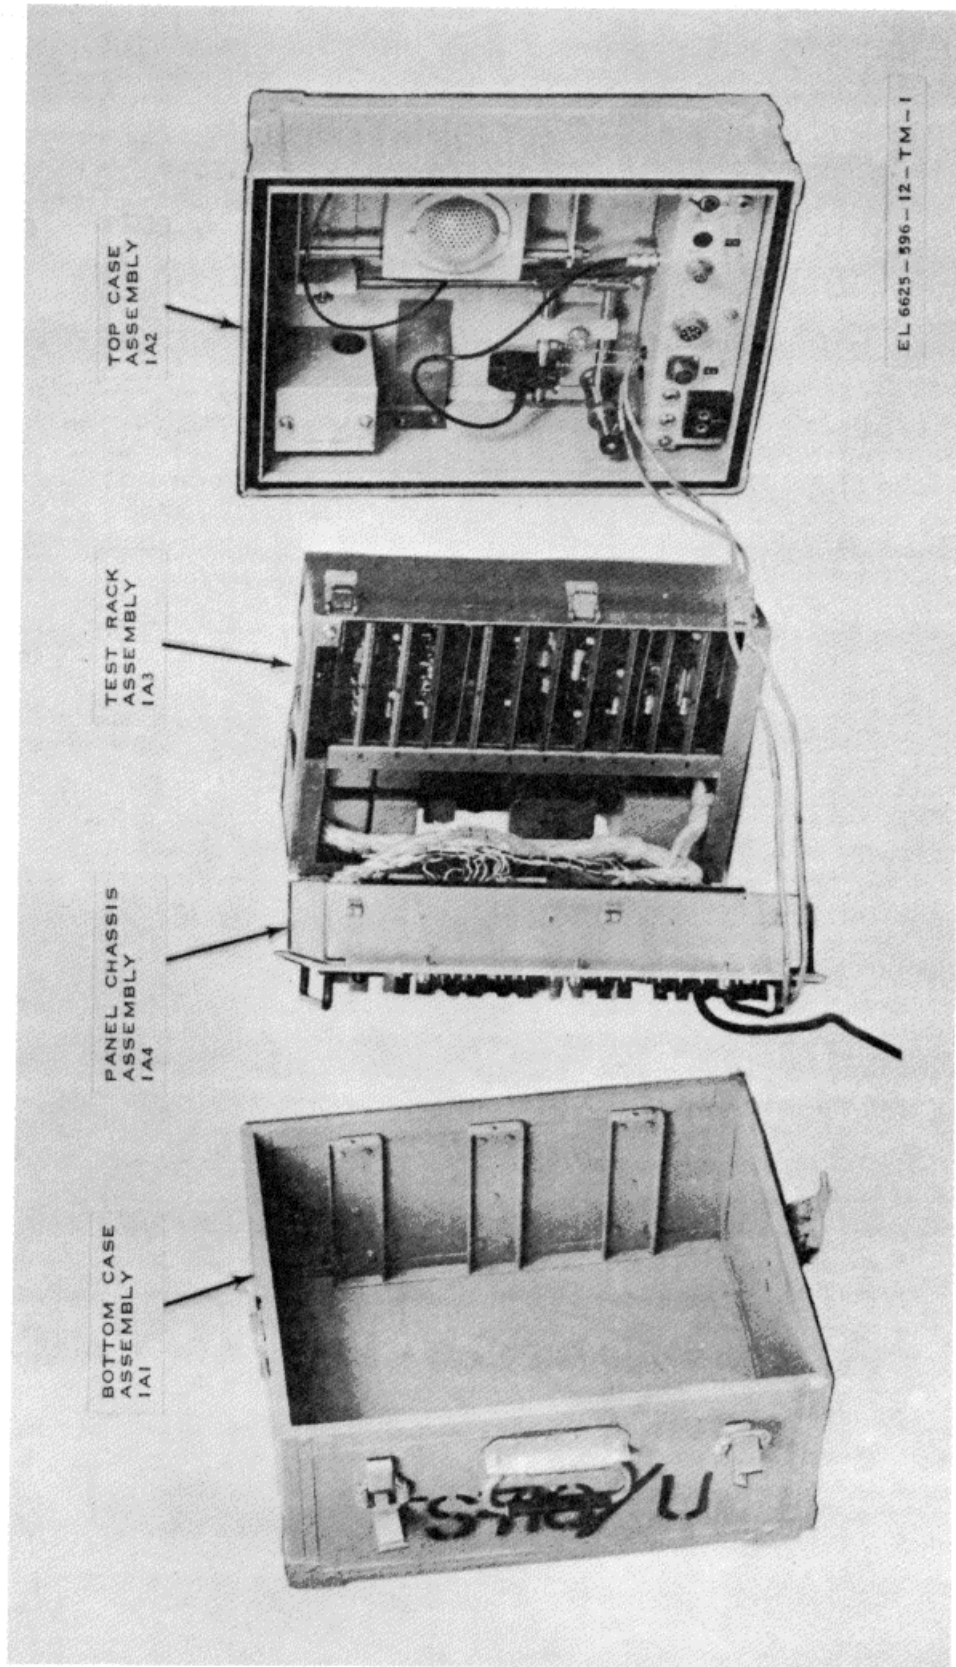

Figure 1-1. Telephone Test Set TS-716/U.
a. This manual describes Telephone Test Set TS-716/U (fig. 1-1), hereafter referred to as the TS-716/U, and provides instructions for installation, operation, and operator and organizational maintenance. It includes instructions for operation under usual and unusual conditions, cleaning and inspection of the equipment, and replacement of parts available to the operator and organizational repairman.
(fig. 1-1)
a. Bottom Case Assembly 1A1 (fig 1-1). Assembly 1A1 (the bottom of the carrying case) is a plastic protective container for assemblies 1A3 (c below) and 1A4 (d below).